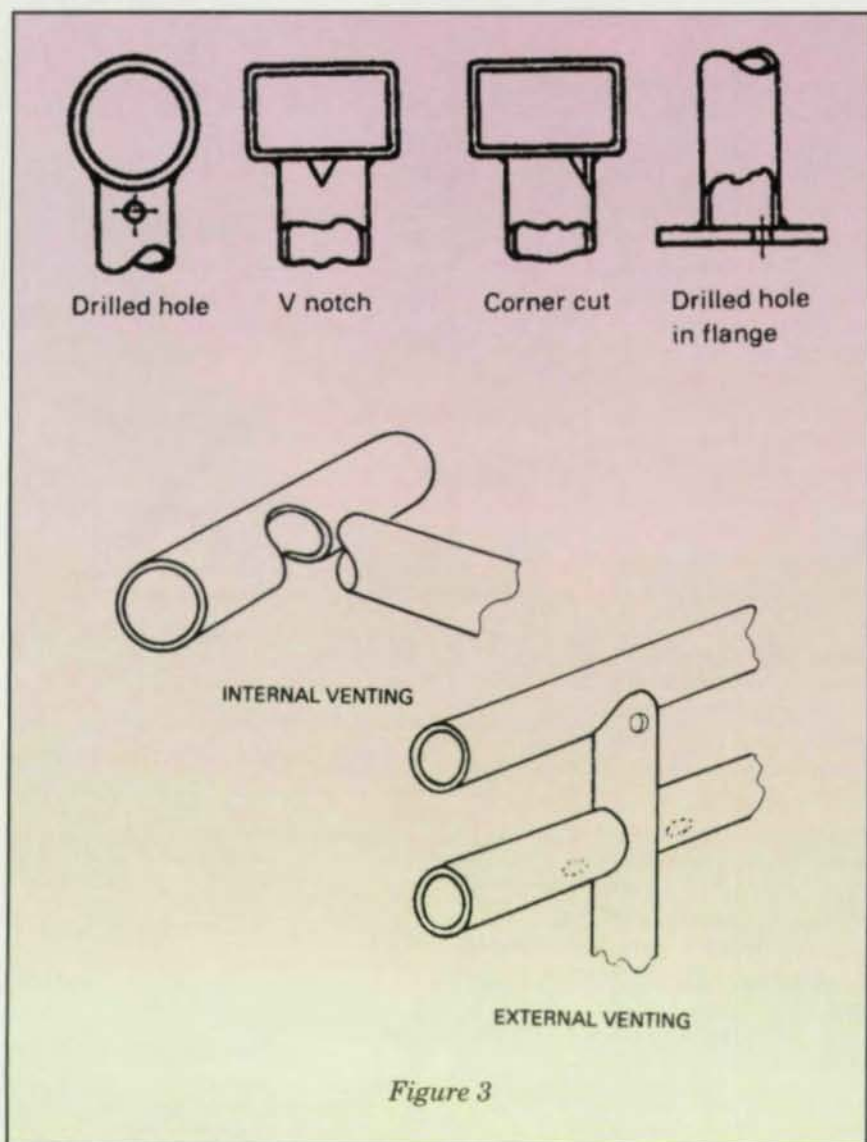

Figure 3
5. Pipe fabrications (See Fig. 3) must have sufficient openings in number, total area and proper location to permit interior gases and moisture to escape during the pickling and galvanizing process. If this precaution is not taken, there is a large potential for explosion caused by the buildup of trapped gas pressure at the very high galvanizing temperature.